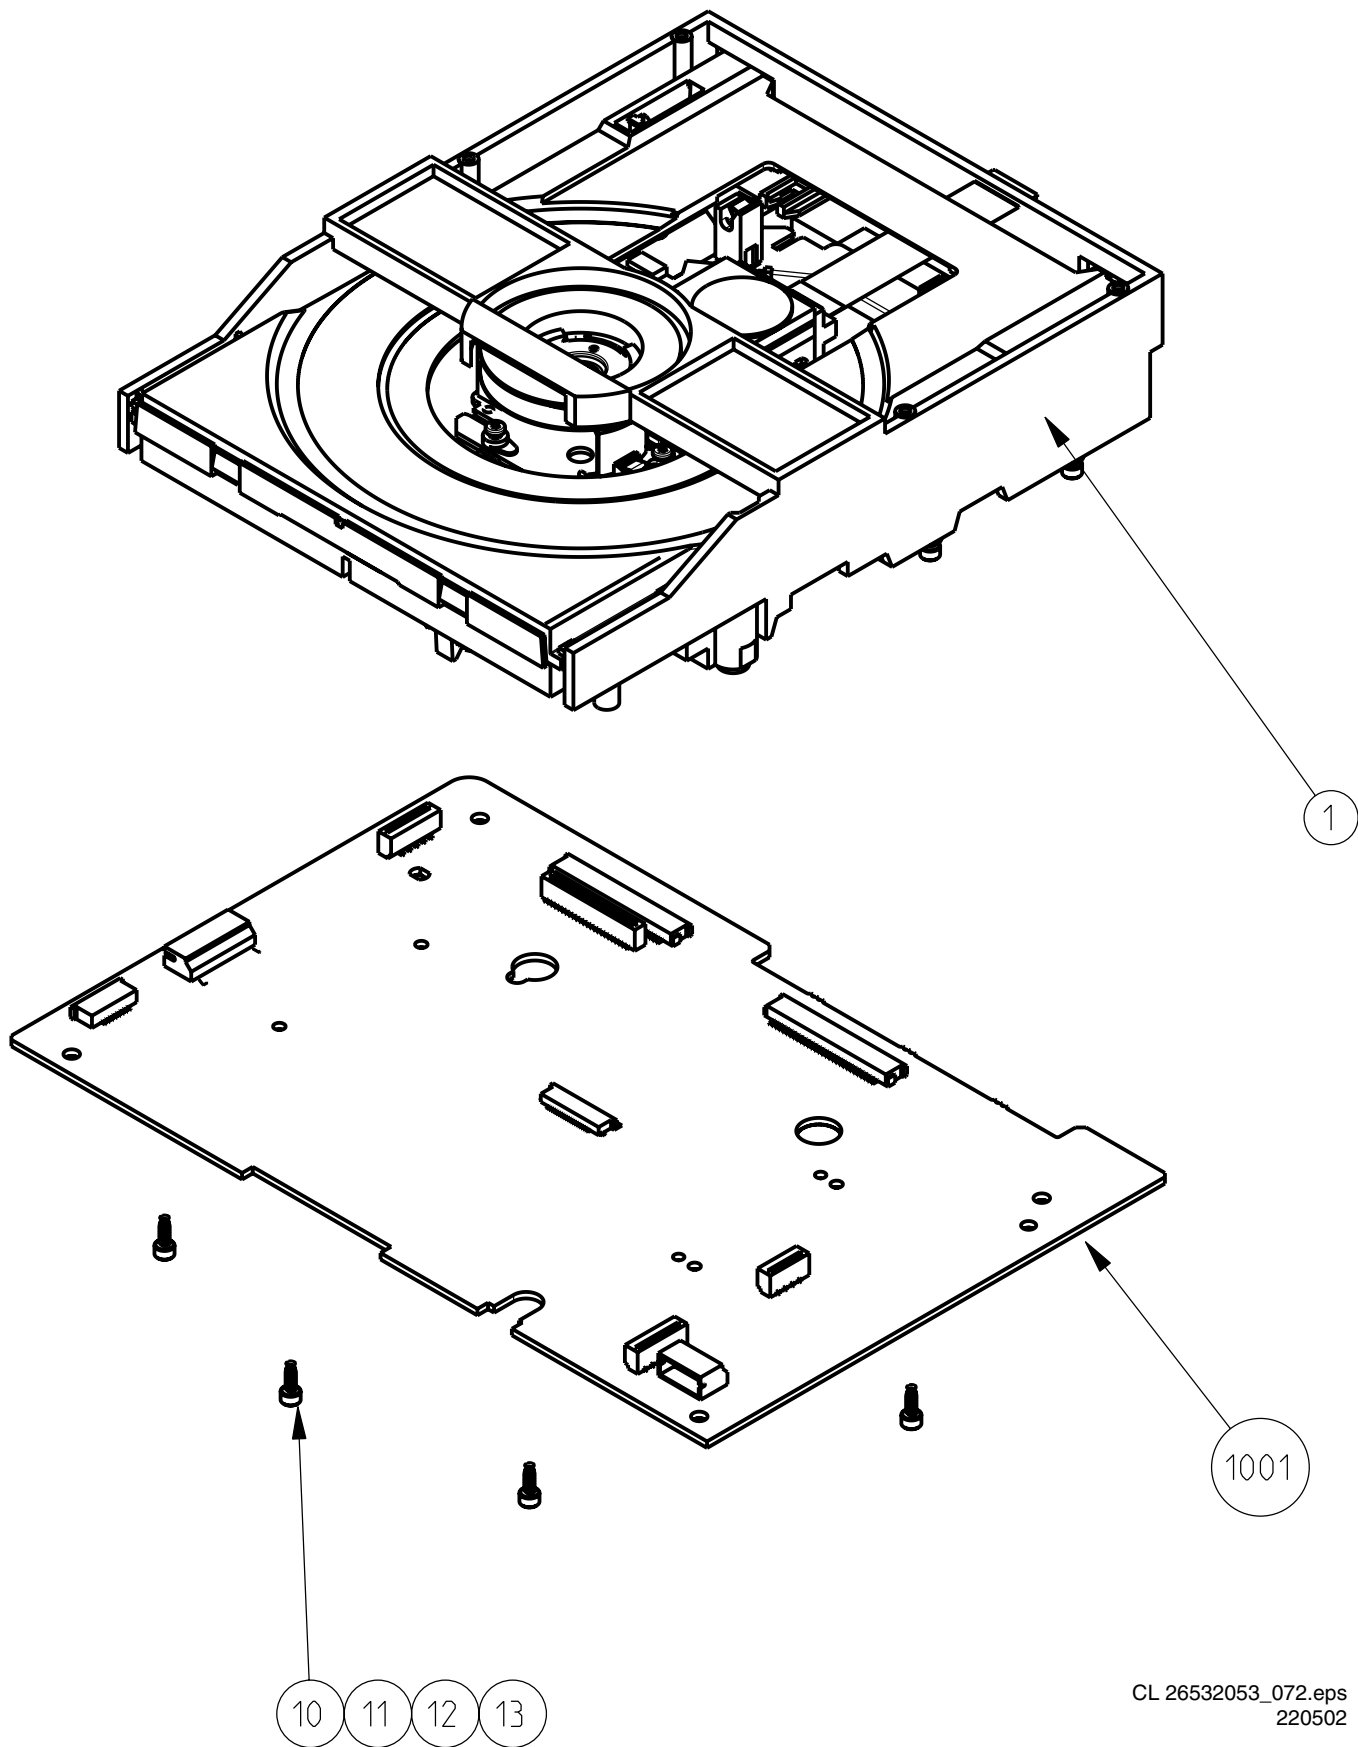

Figure 4-1
1. See Figure 4-1 for dismantling of DVD module.